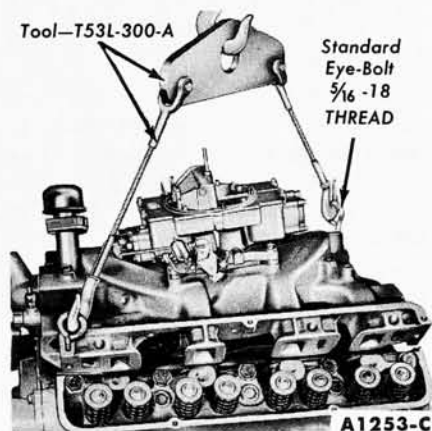

FIG. 21—Intake Manifold
14. Install standard eye bolts with 5/16-18 threads in the left front and right rear rocker arm cover screw holes. Attach the engine lifting sling (Fig. 21).
5. Install the eye bolts in the intake manifold and attach the engine lifting sling and carefully lower the intake manifold on the engine (Fig. 21).